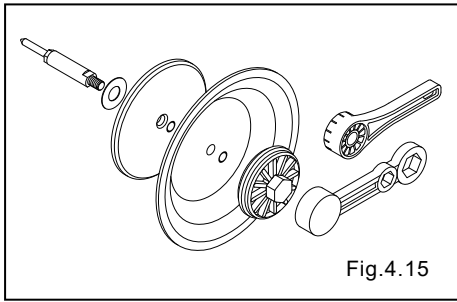

Fig.4.15
- Install the O ring at the center disk. (□T, AD-10□C and AD-10□N) [Fig.4.14, Fig.4.15]
- Apply the screw locking agent and tighten the center disk with dedicated tool. ( part No.771244 :AD-25P□,VT or part No. 771868 :AD-40P□, AD-50P□)[Fig.4.15]